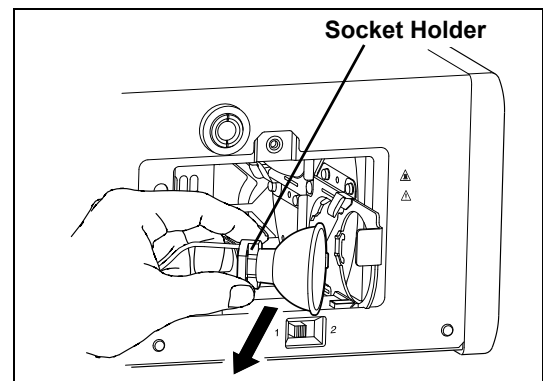

Figure 5.5
- 6** Hold the socket holder and pull it out toward you to remove it from the slide plate for lamp mounting. (Refer to Figure 5.5)